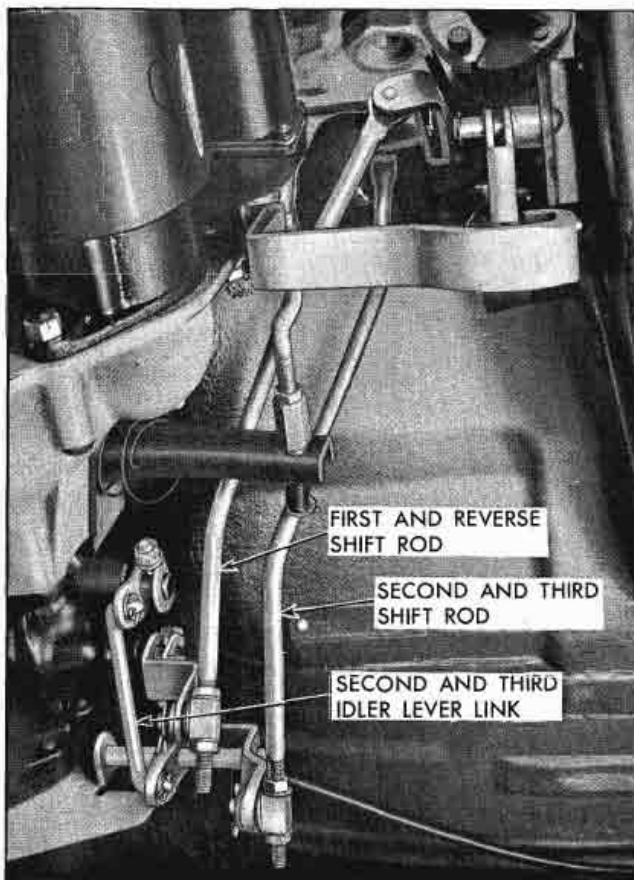

Fig. 7-11 Gearshift Linkage
1. Disconnect 2nd and 3rd and first and reverse shifter rods from upper levers at base of steering column (Fig. 7-11).
2. If shifter rods or second and third idler link (Fig. 7-11), are to be replaced, disconnect them from idler lever and transmission as required.